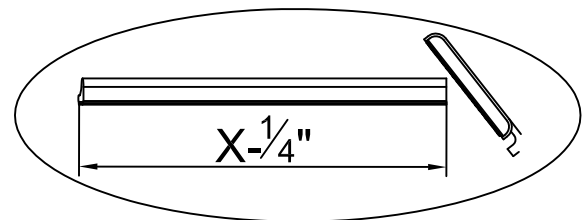

Fig.37
Using a hacksaw cut the Door Threshold bar (11) to fit distance measured between the large fixed glass and small fixed glass. Remove any sharp edges or burrs after cutting Door Threshold bar (11). See Fig.37 for details.